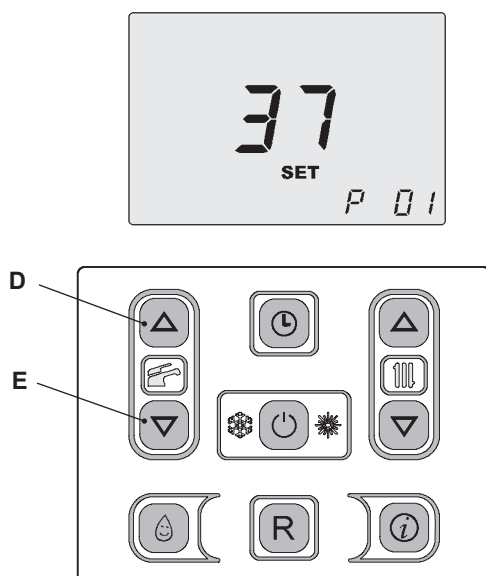

Figure 9.7
- 2 To change the parameters press C.H. set keys "D or E" (Figure 9.7) see also Tab 9.1.